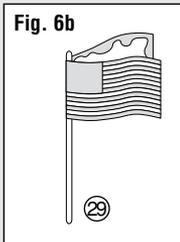

Fig. 6b
- Fold Flag in half, wrapping it around Flag Pole Detail (29) (Fig. 6b).